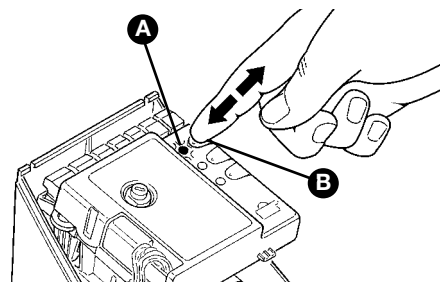

Figure 61
- 2 Press button P1 (figure 61) on the control unit as many times as the number corresponding to the desired command, according to the following table: (e.g. 3 times for the “Open only” command).